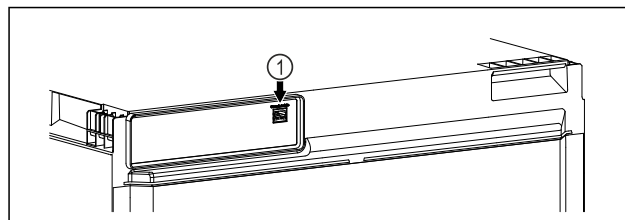

Fig. 18
- SmartModule Fig. 18 (1) has been inserted.